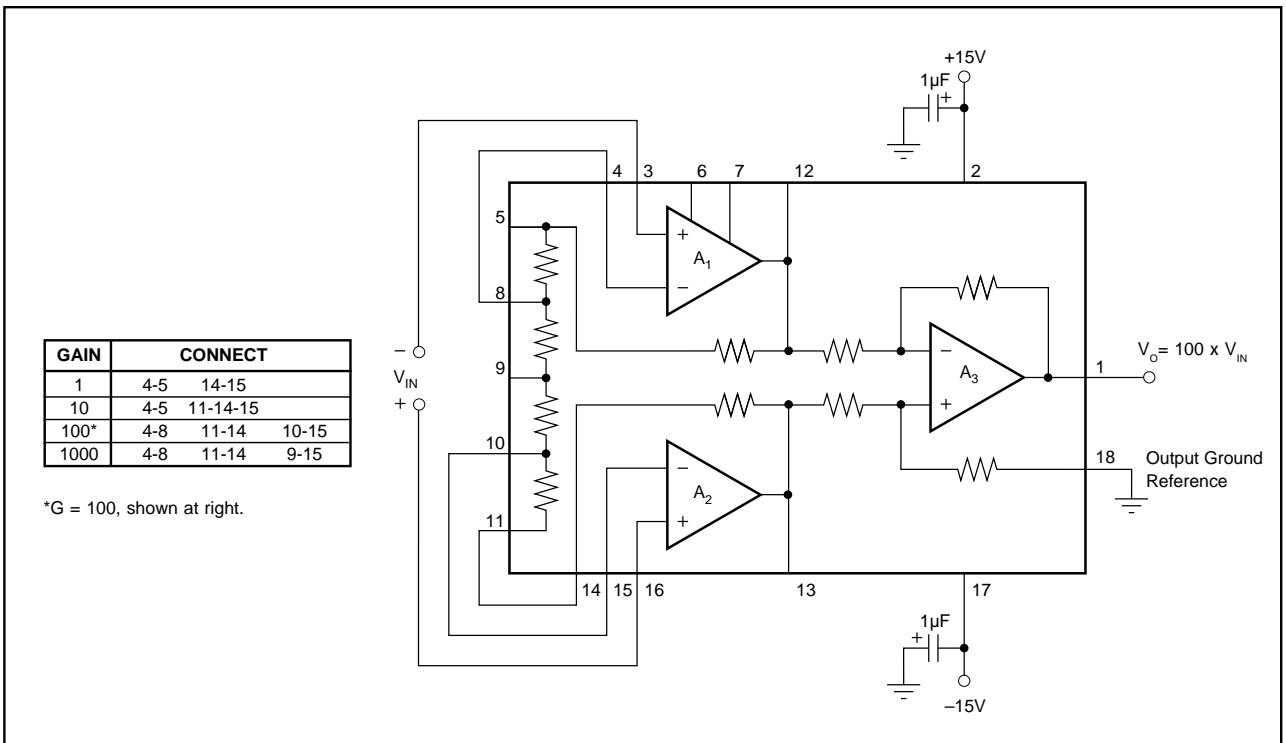
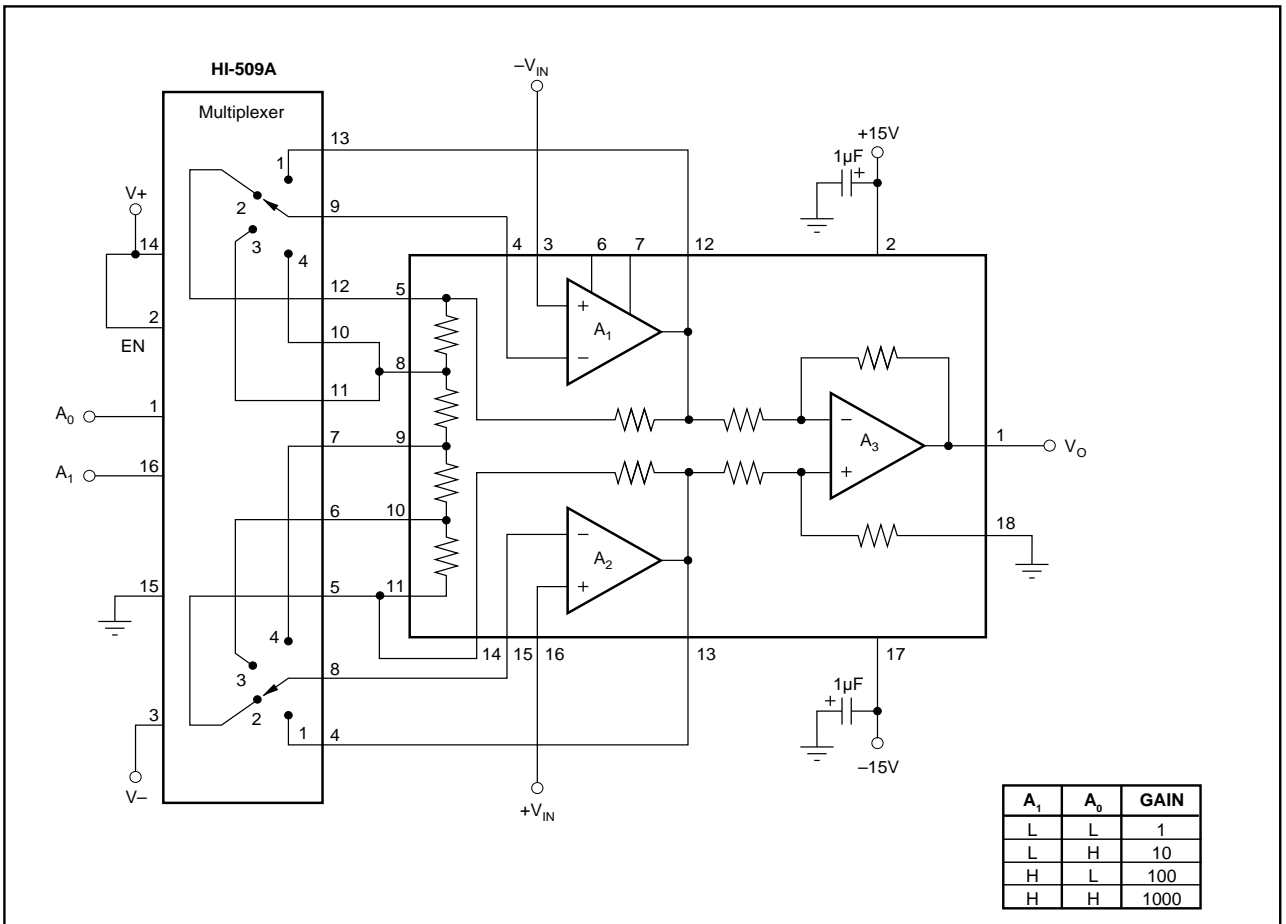

FIGURE 1. Basic Connection.
FIGURE 2. Digital Gain Control.
Figure 1 shows the basic connections required for operation of the INA120. Applications with noisy or high impedance power supply lines may require decoupling capacitors close to the device pins as shown. The differential input voltage is applied to pins 16 and 3.
Gains of 1, 10, 100 or 1000 can be configured by interconnecting the gain-set pins as shown in the table of Figure 1. These pin-strapped gains provide best gain accuracy and drift because they are determined by the ratios of accurately trimmed and matched on-chip resistors.
Digital gain control can be achieved using an analog multiplexer as shown in Figure 2. Since the switches are in series with the high impedance gain-sense connections, pins 4 and 15, their series resistance does not significantly affect gain error or drift. Gain error at $G = 1$ is slightly higher than with direct pin connections shown in Figure 1. The gain is selected with a two-bit address, A_0 and A_1 . The Multiplexer Enable control is directly connected to V_+ since a logic “low” on this line would cause the input amplifiers to run open-loop.
(4) D and E1 dimensions for plastic packages do not include mold flash or protrusions. Mold flash or protrusions shall not exceed .010 inch (0.25mm).
(5) E and eA measured with the leads constrained to be perpendicular to plane T.
(6) eB and eC are measured at the lead tips with the leads unconstrained. eC must be zero or greater.
(7) N is the maximum number of terminal positions.
(8) Corner leads (1, 9, 10, and 18) may be configured as shown in Figure 2.